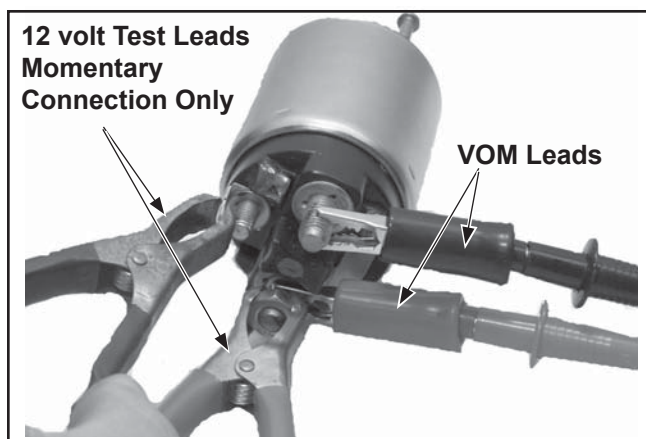

Figure 7-69. Testing Pull-In Coil/Solenoid Contact Continuity.
Use an ohmmeter set to the audible or Rx2K scale, and connect the two ohmmeter leads to the two large post terminals. Perform the preceding test (1) and check for continuity. See Figure 7-69. The ohmmeter should indicate continuity, if no continuity is indicated the solenoid should be replaced. Repeat test several times to confirm condition.